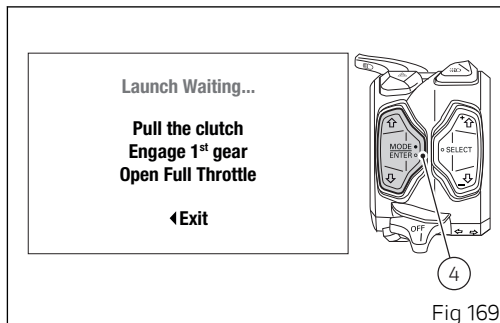

Fig 169
Once the DPL level is set, the instrument panel shows the wait screen for 1 second (Fig 169): during this time, if you press button (4) the wait phase is interrupted and the instrument panel displays the main screen and sets the DPL to OFF.